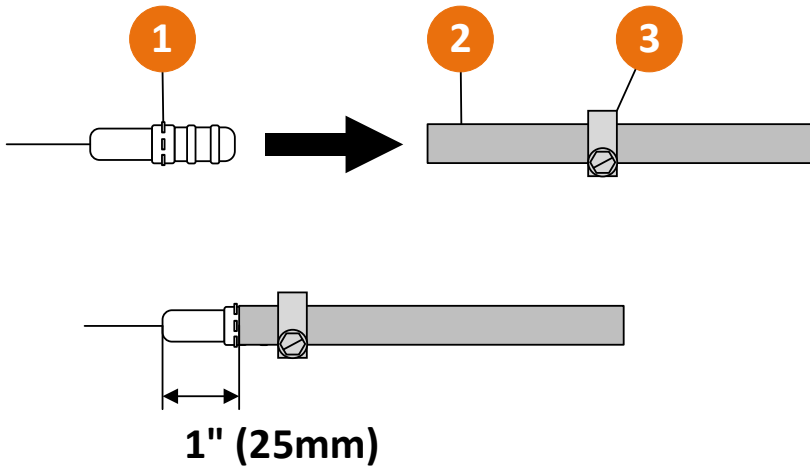

Figure 12
- Regarding 1/2" CTS water lines for connections to 12mm push-fit system: Install an adaptor; see figure 12